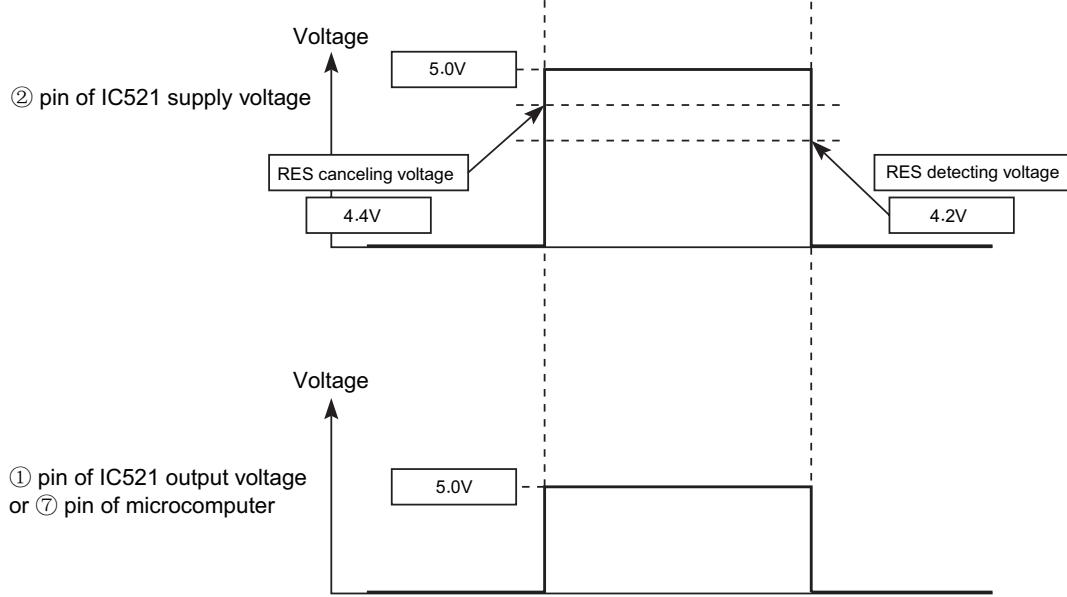

Fig.2-2
- Microcomputer operates when ⑦ pin of the indoor unit microcomputer (reset input) is "Lo" for resetting and "Hi" for heating.
- Waveform of each part when switching ON the power and when shutting down is shown in the Fig. 2-2.
- After switching ON the power, ① pin of IC521 supply voltage and ⑦ pin of microcomputer becomes Hi when DC5V line rises and reaches approximately 4.4V or higher.